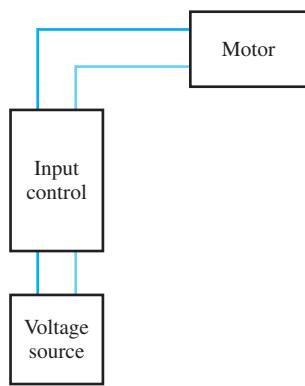
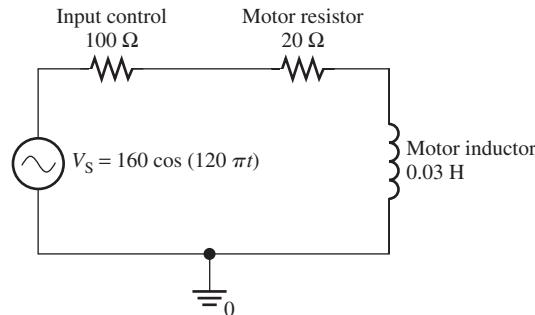

FIGURE 7.52 Block diagram of an elevator.
FIGURE 7.53 Circuit for the elevator circuit.
Figure 7.52 shows a simple block diagram of an elevator. The passenger selects a destination floor by choosing the floor on the input/control. The input/control processes the message and orders the motor to move the elevator to the particular floor.
- Based on the equivalent circuit given in the problem for the component, Figure 7.53 represents the equivalent circuit of Figure 7.52. Thus, the system is a high-pass filter with a break frequency of: